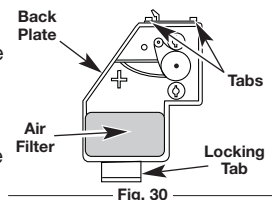

Fig. 30
2. Remove the air filter (Fig. 30).
6. Replace the filter (Fig. 30).